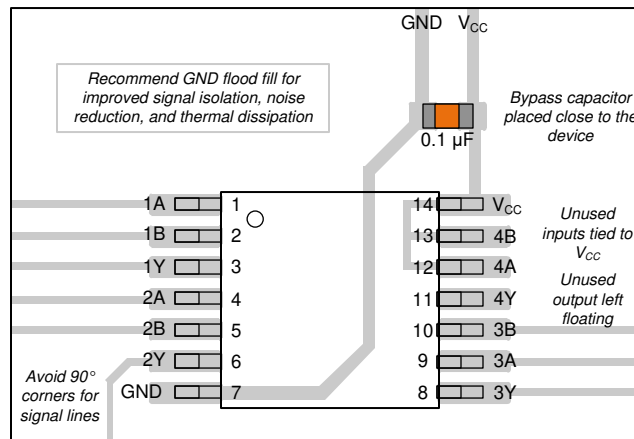

Figure 8-3. Example Layout for the SN74LVC132A
1. Add a decoupling capacitor from V_{CC} to GND. The capacitor needs to be placed physically close to the device and electrically close to both the V_{CC} and GND pins. An example layout is shown in the Figure 8-3.
The power supply can be any voltage between the minimum and maximum supply voltage rating located in the Recommended Operating Conditions. Each V_{CC} terminal should have a bypass capacitor to prevent power disturbance. A $0.1\mu\text{F}$ capacitor is recommended for this device. It is acceptable to parallel multiple bypass caps to reject different frequencies of noise. The $0.1\mu\text{F}$ and $1\mu\text{F}$ capacitors are commonly used in parallel. The bypass capacitor should be installed as close to the power terminal as possible for best results, as shown in Figure 8-3.